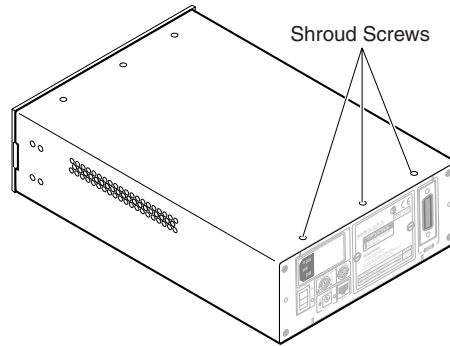

Figure 3-5. Top Rear Shroud Screws
- 3 Use a #1 Phillips screwdriver to remove the three 4-40 x 3/16-inch countersunk shroud screws on the top of the Counter near the back edge of the shroud (see Figure 3-5).